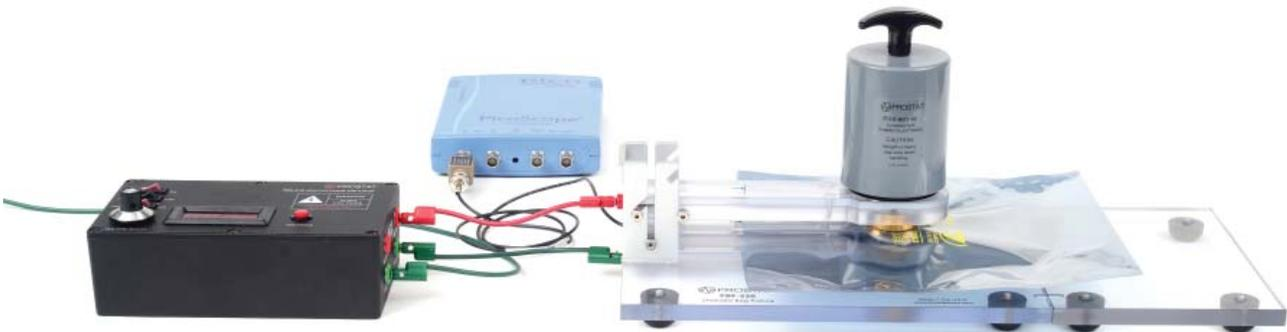

Figure 13: Complete setup for Shielded Bag Test.
- E. Place the PRS-801-W five lbs weight onto the Discharge Arm (Figure 13).